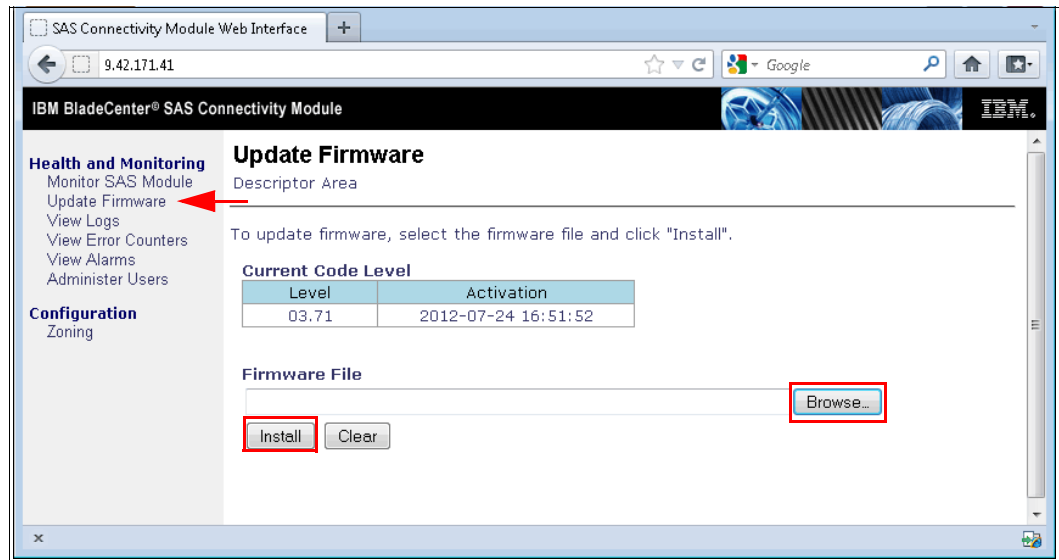

Figure 19-5 SAS Connectivity Module - Update Firmware
2. In the Monitor Module window, click **Update Firmware**. The Update Firmware window opens, as shown in Figure 19-5. The current firmware level is also displayed.